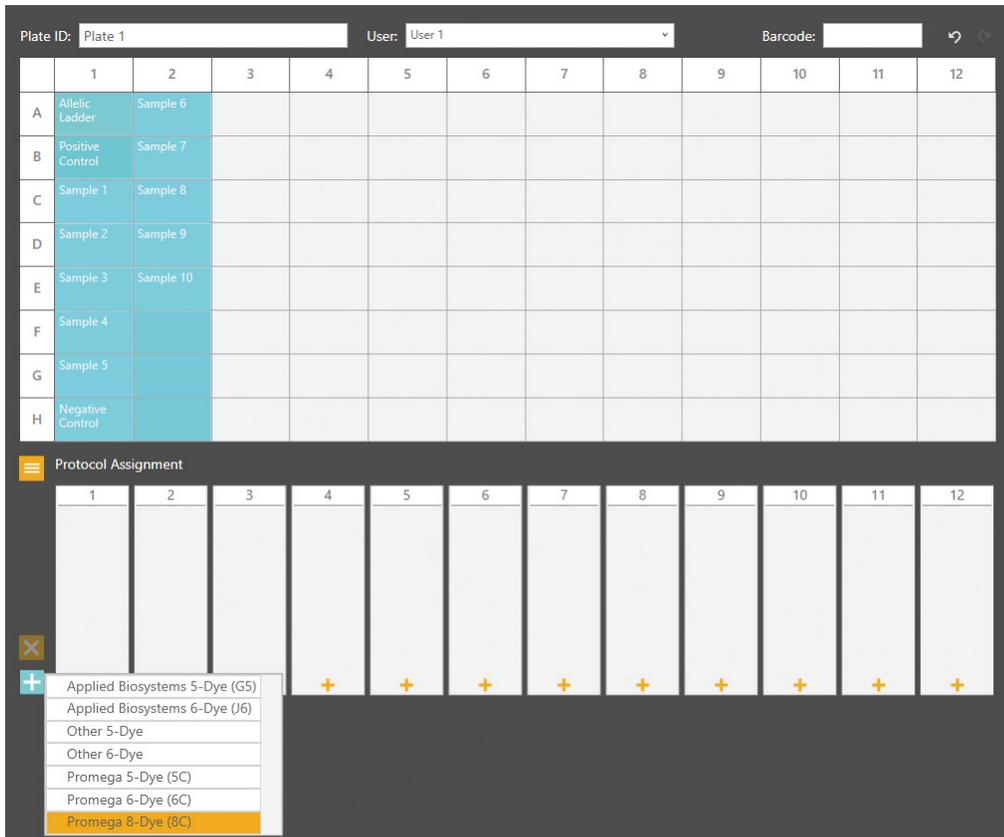

Figure 13. Assigning run protocol to multiple injections.
- To add a run protocol to multiple injections, highlight the desired injections in the plate map (click-drag, Ctrl + left-click or click the upper left cell). Then select the **+** button on the left side of the injection information section and select **Promega 8-Dye (8C)** (Figure 13) from the pop-out menu.